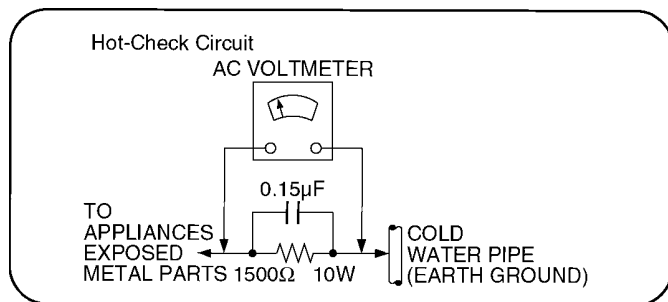

Figure 1
#### 2.1.2. LEAKAGE CURRENT HOT CHECK (See Figure 1 .)
2. Connect a  $1.5k\Omega$ , 10 watts resistor, in parallel with a  $0.15\mu F$  capacitors, between each exposed metallic part on the set and a good earth ground such as a water pipe, as shown in Figure 1.